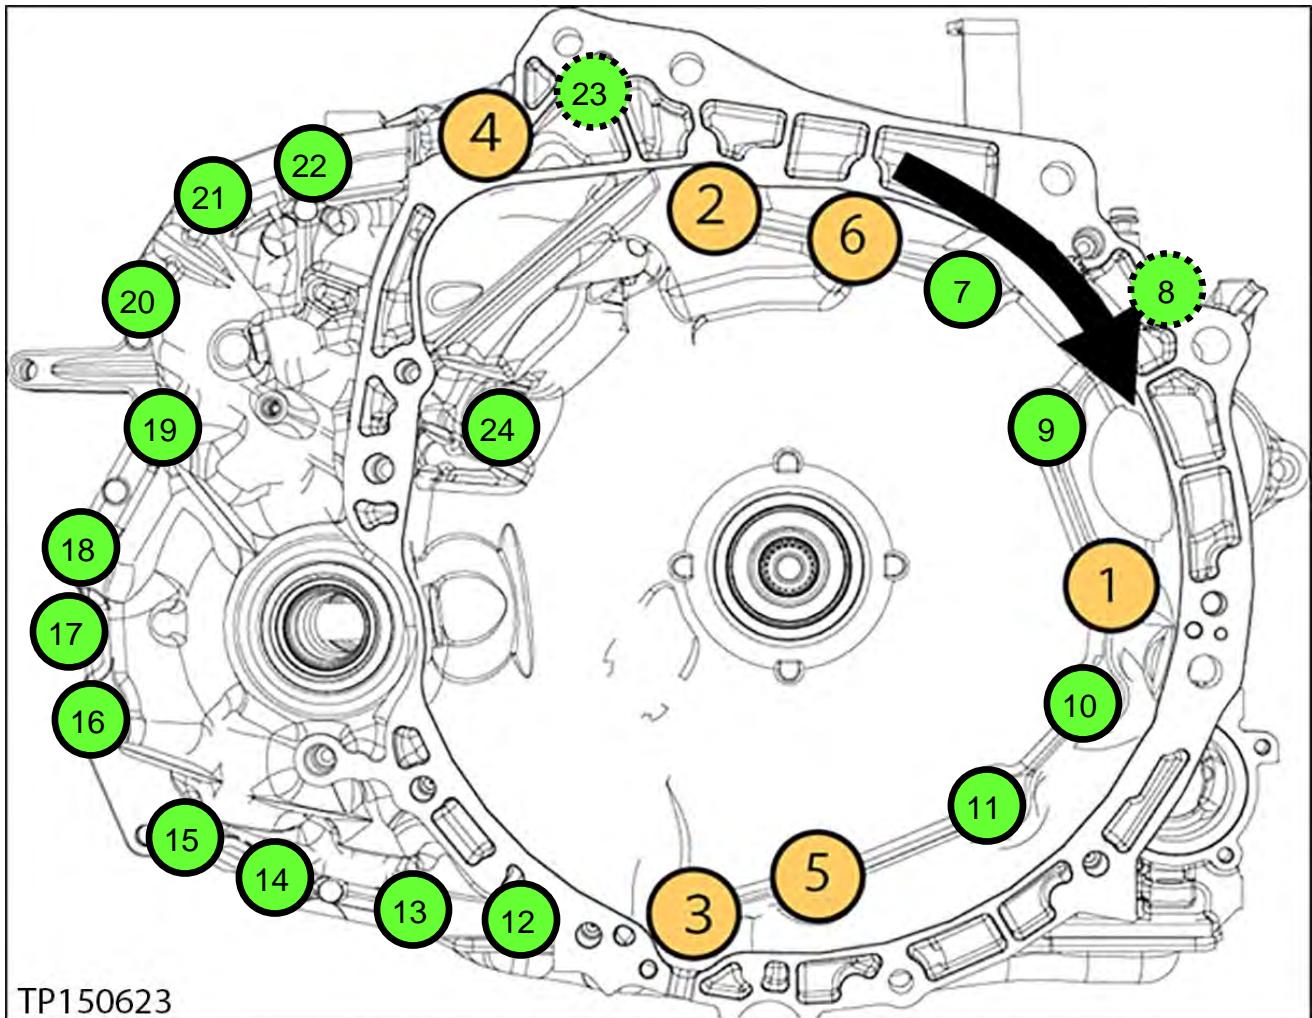

Figure 16l
15. Install the torque converter housing onto the CVT case (see Figure 16l for torque sequence):
- Install new bolts (24).
- a. Torque the first six (6) bolts with symbol  in numbered sequence (see below).
IMPORTANT: Make sure to torque the bolts in the sequence shown (Figure 16l).